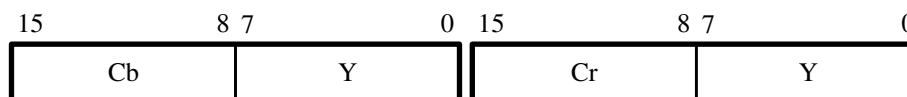

Figure 19. YCrCb 4:2:2 Color Space.
- YCrCb 4:2:2 — This format has only half of the Cr and Cb components. Each consecutive pixel has alternating Cr or Cb components, with the first pixel in the frame starting with the Y and Cb pixel. Figure 19 shows two consecutive pixels for this format. This mode is defined as 8 bits per color and two color planes.